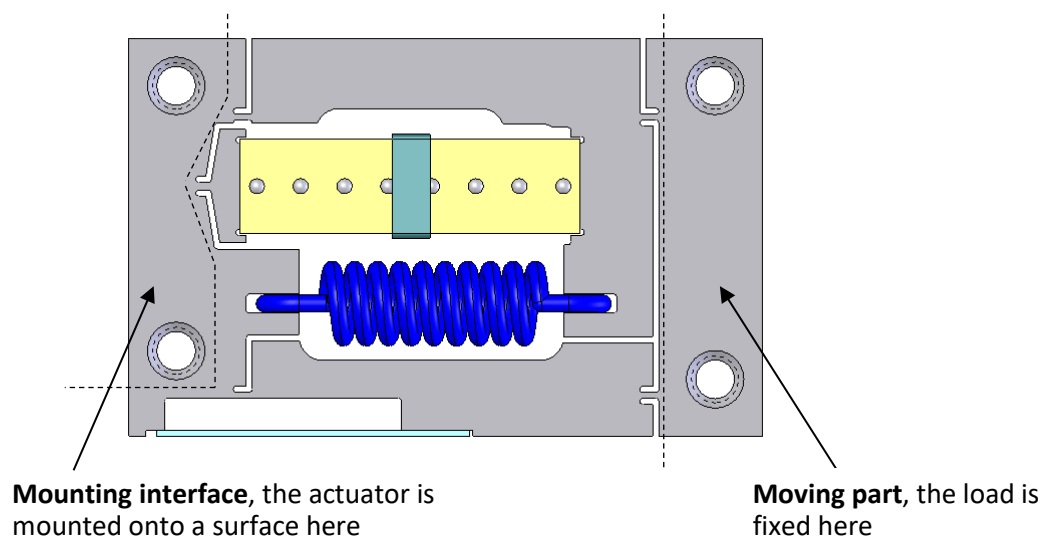

Figure 2: Mounting interface and moving part
1. Only mount the P-603 onto a surface using the mounting holes intended for this purpose (refer to Figure 2, p. 12).
2. Only fix a load to the P-603 using the mounting holes intended for this purpose (refer to Figure 2, p. 12).